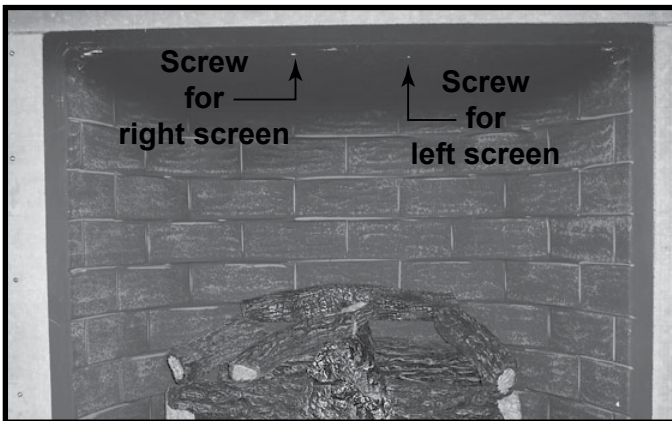

Figure 8.15 Remove Screws from Firebox Top
- Fasten rod with one of the screws removed from the firebox top, into the hole shown in Figure 8.15.